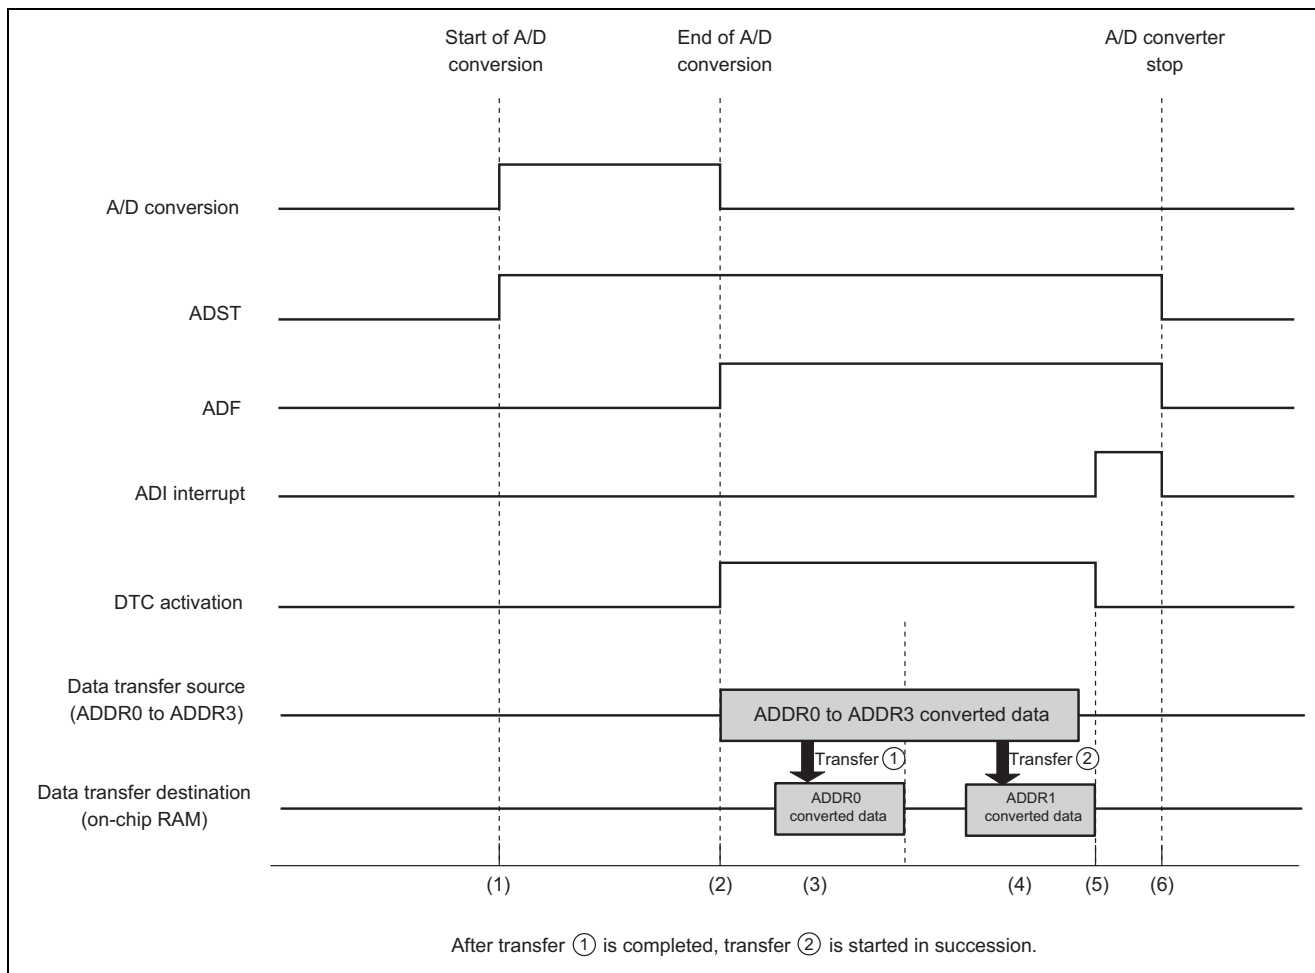

Figure 3 Timing of A/D Conversion and DTC Transfer
A block diagram of the DTC is shown in figure 3.
Firstly, the ADI interrupt is enabled, and then the ADST bit is set to 1 to start A/D conversion (figure 3, (1)). When the ADF bit is set to 1 automatically at the end of the A/D conversion, an ADI interrupt request is generated and the DTC is activated (figure 3, (2)). Even if an ADI interrupt request is generated, no interrupt occurs if the DTC is activated. Then, the DTC transfers A/D-converted data in ADDR0 to the previously reserved area in RAM (figure 3, (3)). After that, the DTC also transfers A/D-converted data in ADDR1 to the area in RAM in succession. When the data transfer ends, the ADF bit is automatically cleared (figure 3, (4)). The A/D conversion in this sample application is performed in continuous scan mode. Therefore, the ADST bit is not automatically cleared. When the DTC transfer ends and the ADF bit is set to 1, the DTCE bit is cleared automatically, thereby causing an ADI interrupt (figure 3, (5)). In the processing routine for this interrupt, the ADST bit is cleared to stop the A/D converter (figure 3, (6)).